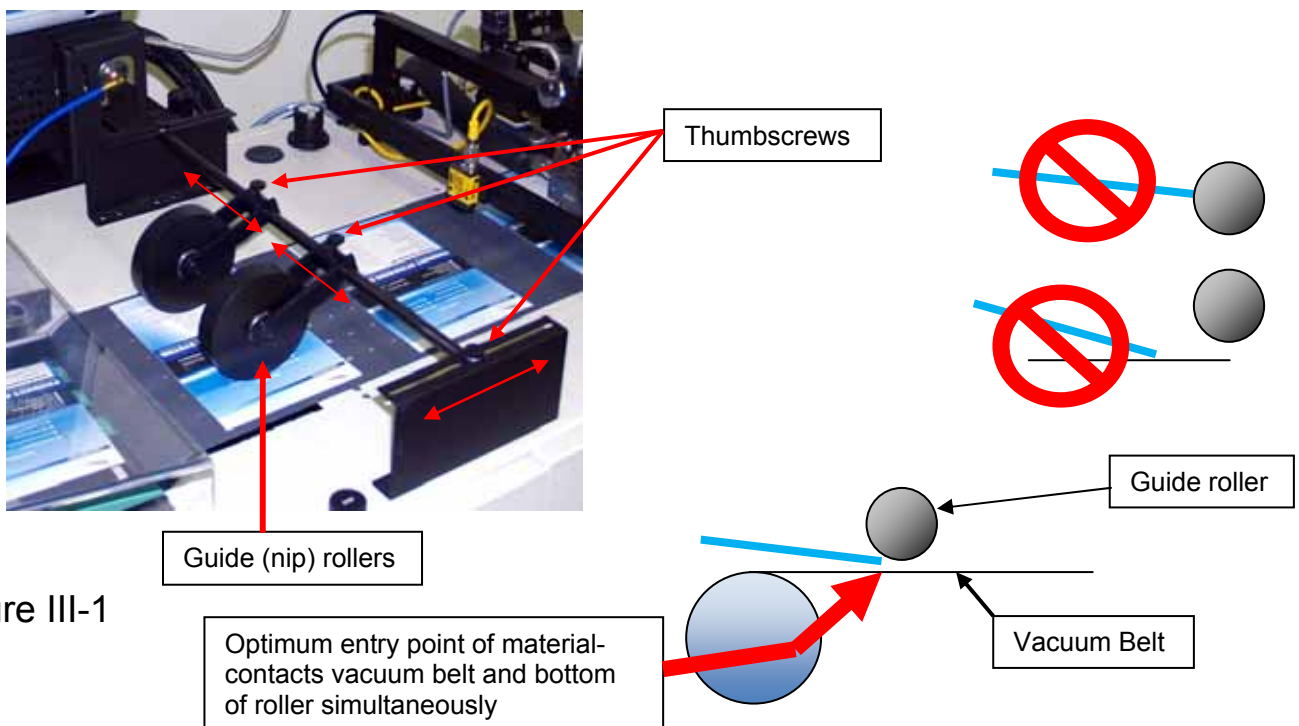

Figure III-1
1. Place a piece of the material (that is to be run under the glue applicator) onto the vacuum transport belt just beneath the nip rollers upstream of the glue applicator. Adjust guide rollers per the following: See figure III-1.